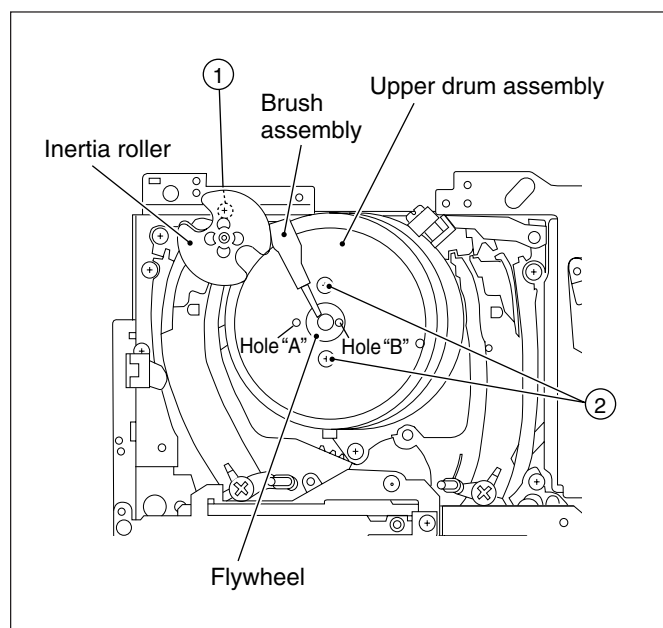

Fig. 2-3-2
- (1) Remove the screw ① to replace the brush assembly. (Refer to Fig. 2-3-2.)
① How to remove
- (1) Remove the mechanism assembly. (Refer to Section 1. 1 "DISASSEMBLY OF MAJOR PARTS".)
- (2) Remove the screw ① and remove the brush assembly and inertia roller. (Refer to Fig. 2-3-2.)
- (3) Remove the two screws ⑤ and remove the rotor assembly.
- (4) Remove the three screws ⑥ and remove the stator assembly.
- (5) Be careful the drum assembly drop down, remove the three screws ⑦ and remove the drum assembly.